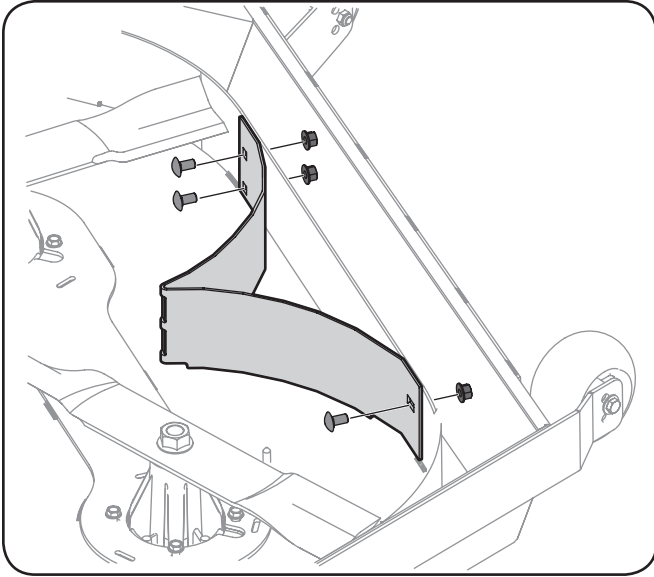

Figure 1-5
3. Install the left baffle using three ¾-inch carriage bolts (and three flange nuts) to secure it. See Figure 1-5.